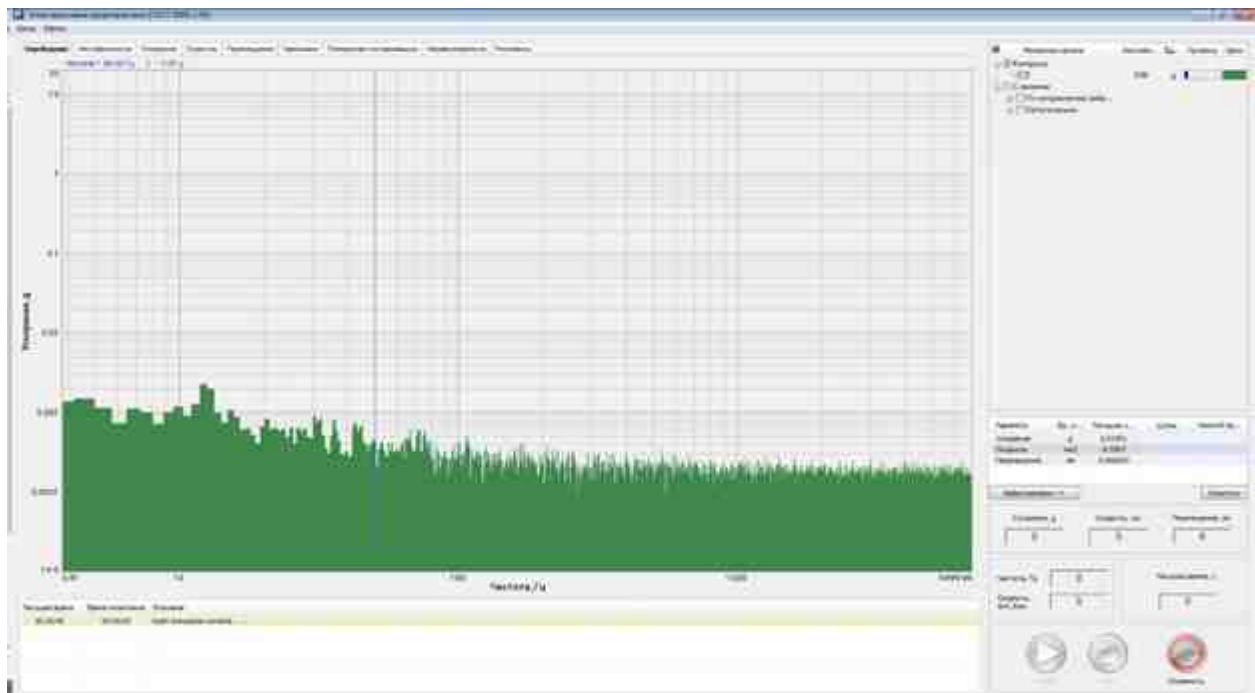
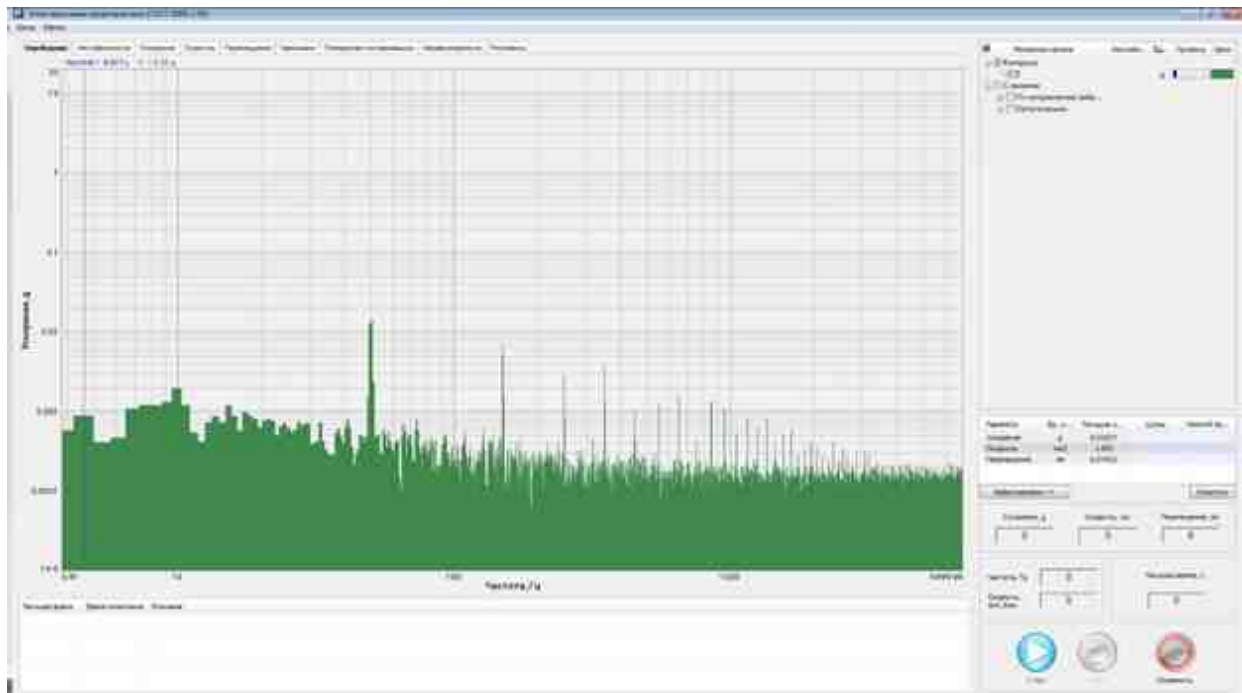

Fig. 6.1 Testing tab. Spectrum at no network interference
Fig. 6.2 Testing tab. Spectrum with network interference
4. Make sure that there is no significant level of network interference (discrete values at 50 Hz frequency and its harmonics exceed the noise level more than 10 times) at the spectrum graphic (Fig. 6.1). In case of a significant level of network interference (Fig. 6.2), check grounding of the FFT spectrum analyzer and equipment being certified, and take the relevant measures to decrease the network interference.
3. Make sure there is no significant level of network interference (discrete at 50 Hz frequency and its harmonics exceed the noise level more than 10 times) at the spectrum graphic (Fig. 6.2).